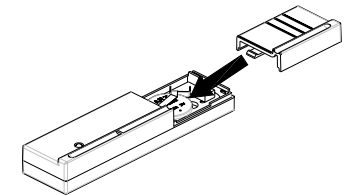

FIGURE 11c
3. Refit the battery cover. (FIGURE 11c)